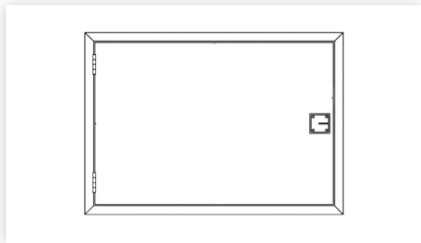

figure 6
2. You may choose to prepare the lid for painting by putting 1-2 coats of primer now as it is easier than later, when the unit is in the ceiling. (Figure 6)